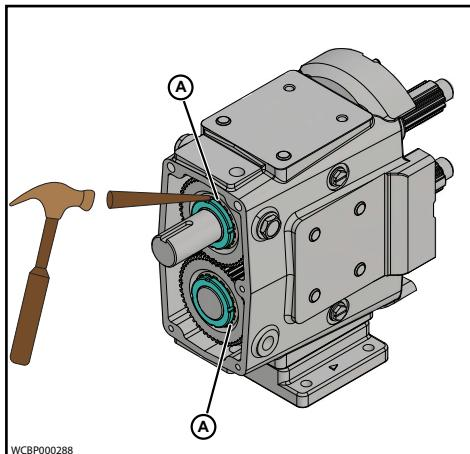

**Figure 68 Remove Gear Case Cover**
1. Remove the oil drain plug (Figure 68, item 24D); drain the oil.
2. Remove the cap screws from the gear case (Figure 68, item 33A).
3. Pull the cover (item 4) off the shaft extension. If the cover sticks, use a soft hammer to loosen it.
4. Remove the silicone sealant (item 25) from the gear case and cover.
5. Using an arbor press, remove the oil seal (item 12) from the cover. Discard the used oil seal.